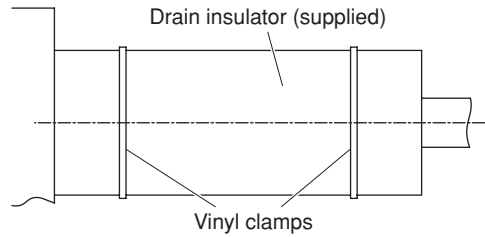

Fig. 3-26
(2) After checking the drainage, wrap the supplied packing and drain pipe insulator around the pipe, then secure it with the supplied clamps. (Fig. 3-26)